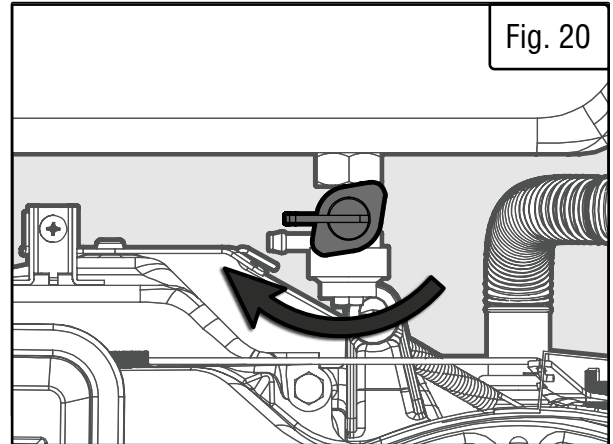

Fig. 20
1. Prepare an approved gasoline-storage container under the carburetor to collect drained fuel. Close the fuel valve (Fig. 20).